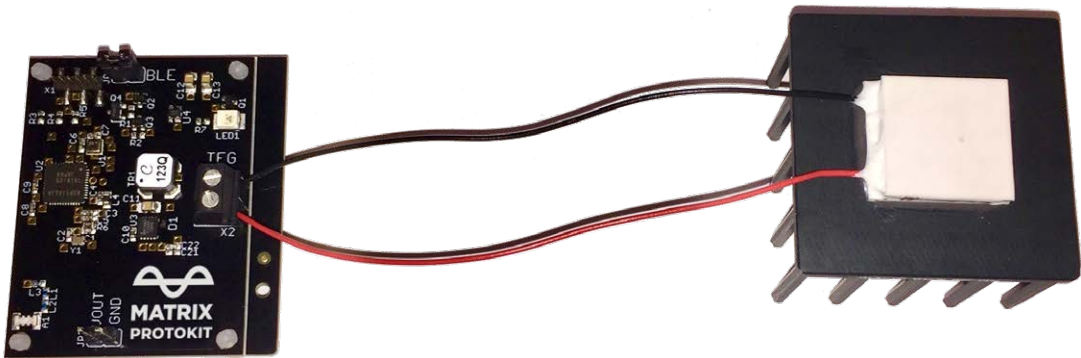

Figure 2: MCRY-PROTOKit with MATRIX Gemini TEG
5. The screens show the VOC (VTEG), and the power output can be calculated using:  $POUT = \text{efficiency} * VOC^2 / (4 * RTEG)$ . RTEG is  $12\Omega$  and the efficiency can be looked up from the Mercury datasheet (Figure 2). If the Seebeck coefficient STEG of the TEG module is known, the VOC can also be used to estimate the temperature difference across the TEG using  $dT = VOC / STEG$ .